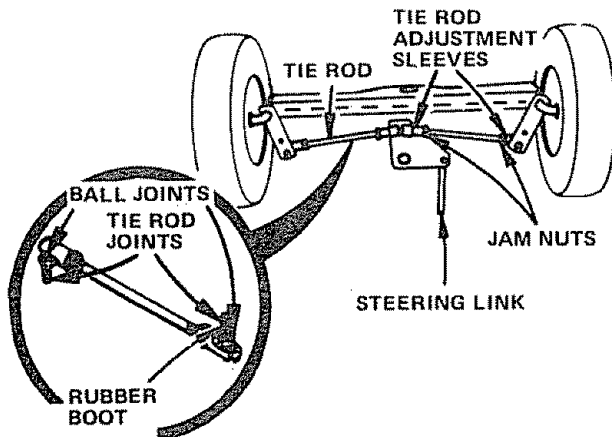

FIGURE 43
- Move Rubber Boots to expose Ball Joints on Tie Rods and Steering Link (Fig. 43).